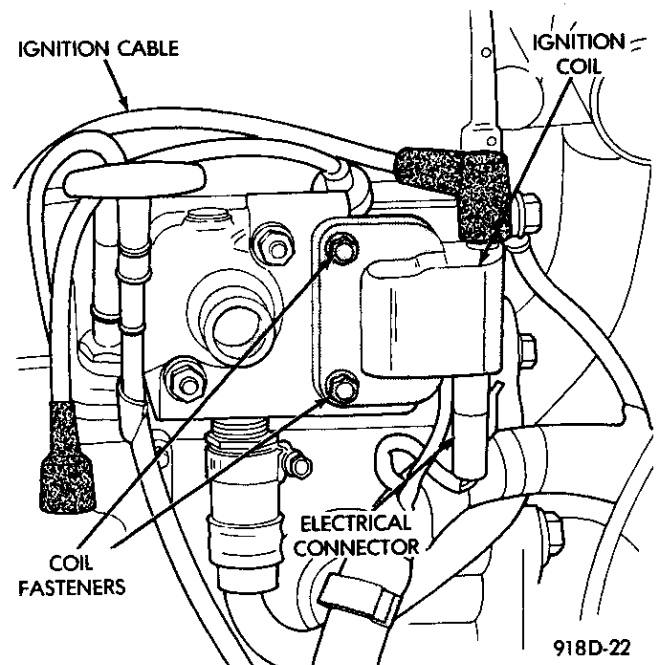

Fig. 12 Coil Harness Connector—2.5L Engine—Typical
(1) Unplug the ignition coil harness connector at the coil (Figs. 12 or 13).